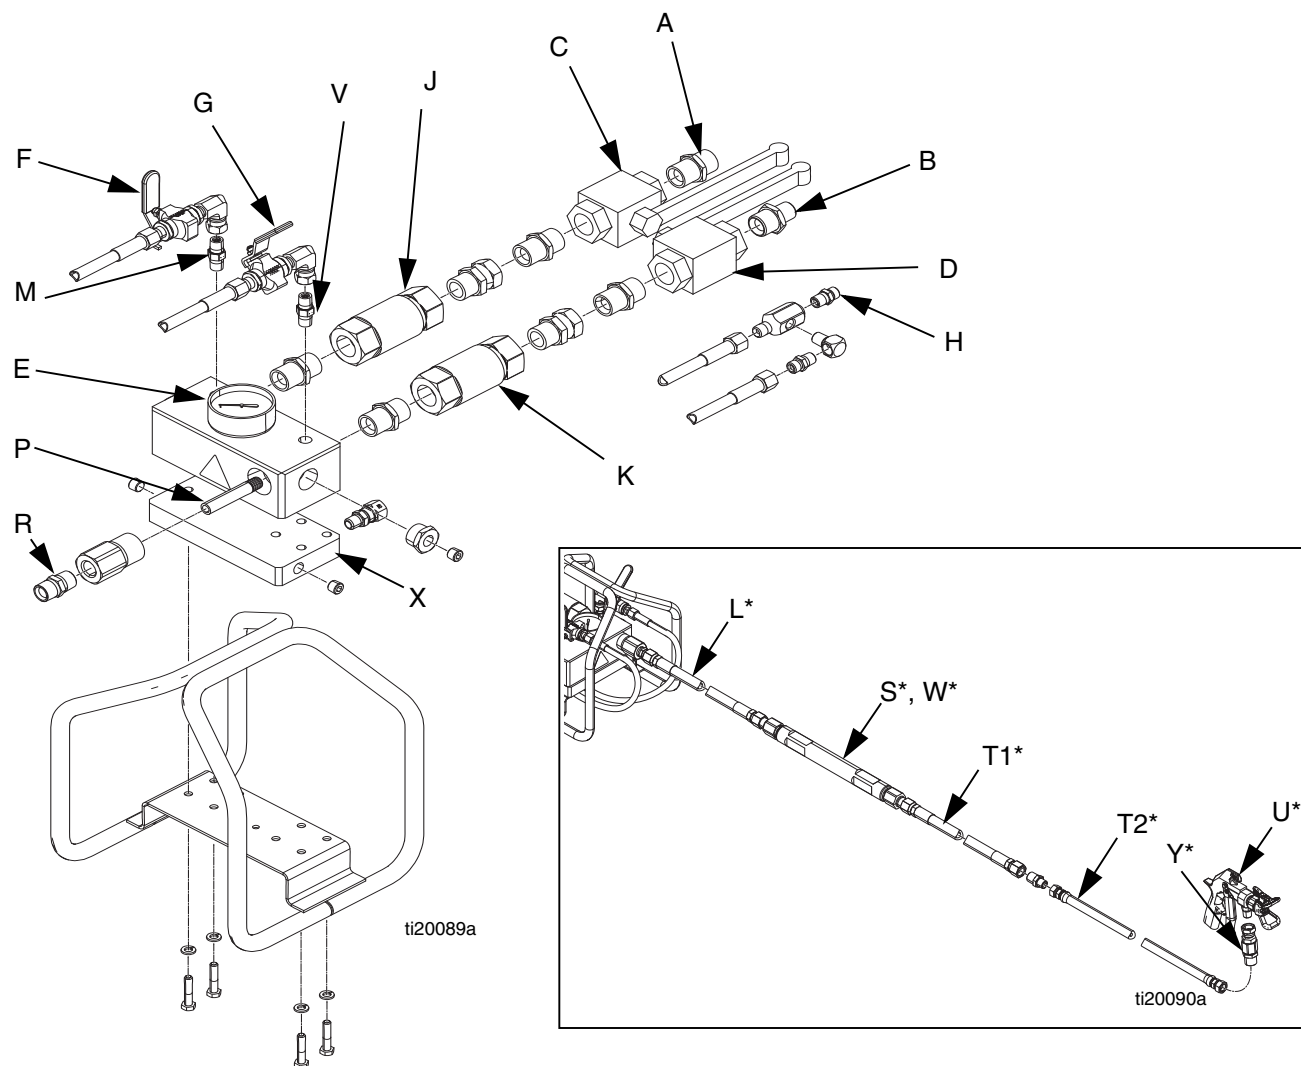

FIG. 1: Typical Installation
Follow these recommendations for setup (see FIG. 1 on page 6):
See FIG. 1 on page 6. The A and B fluid inlets are equipped with 3/4 in. check valves, ball valves, and 3/4 in. x 3/4 in. npt fittings and 3/4 in. x 1/2 in. fitting. Connect 3/4 in. and 1/2 in. npsm(f) fluid hoses using the two adapter nipples.
See FIG. 1 on page 6. Connect the solvent supply line from the solvent pump to the 1/4 npt(m) solvent inlet valve (H). Use a grounded, Graco-approved hose rated to withstand the maximum fluid working pressure of the solvent pump. The solvent chosen must be chemically compatible with the hose core material.
See FIG. 1 on page 6. Connect the 1/2 in. ID x 2 ft. (minimum) integrator hose (L) to the mix manifold fluid outlet (R). Then connect the static mixer (S) and mix hose (T1) to the 1/2 npt(f) integrator hose (L). Then connect the fluid whip hose (T2) to the mix hose and the gun to the whip hose.
See FIG. 1 on page 6. The XM PFP manifold has a 1 in. thick aluminum plate with brass compression fittings for 1/2 in. OD x 3/8 in. ID nylon hose used to circulate heated water/glycol and heat the mix manifold.